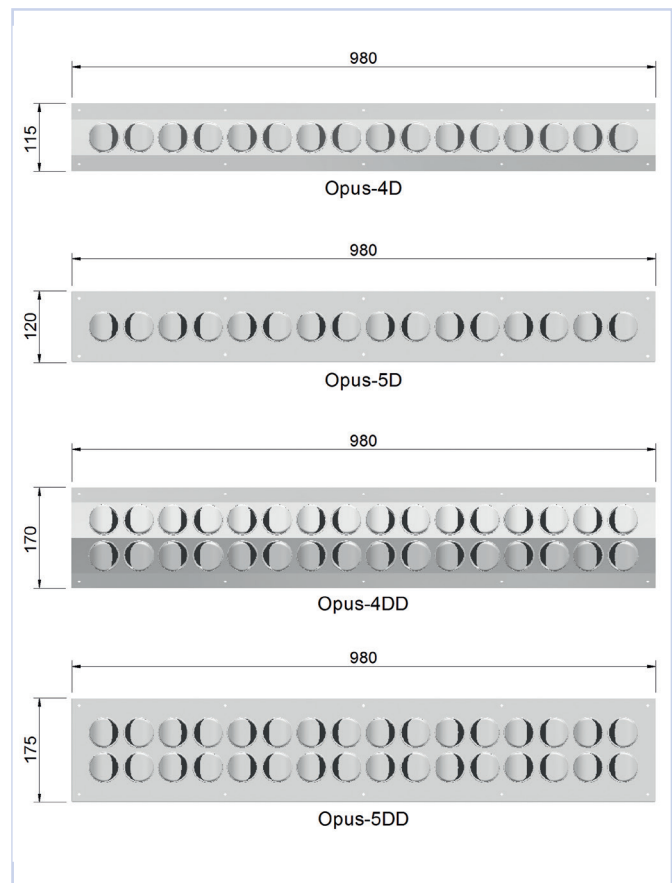

Fig. 1
Opus-4D and 4DD are made for installation in circular ducts, whereas Opus-5D and 5DD are designed for installation in rectangular ducts. The diffusers are equipped with adjustable Opus nozzles. Each unit is fitted with a diffuser plate to the rear which ensures even distribution at the front. The system is available with one (D) or two (DD) nozzle rows. In addition to the standard dimensions, made-to-measure diffusers with different numbers of nozzles are also available. Please contact your local dealer for more information. The standard nozzle settings are shown in fig. 1.